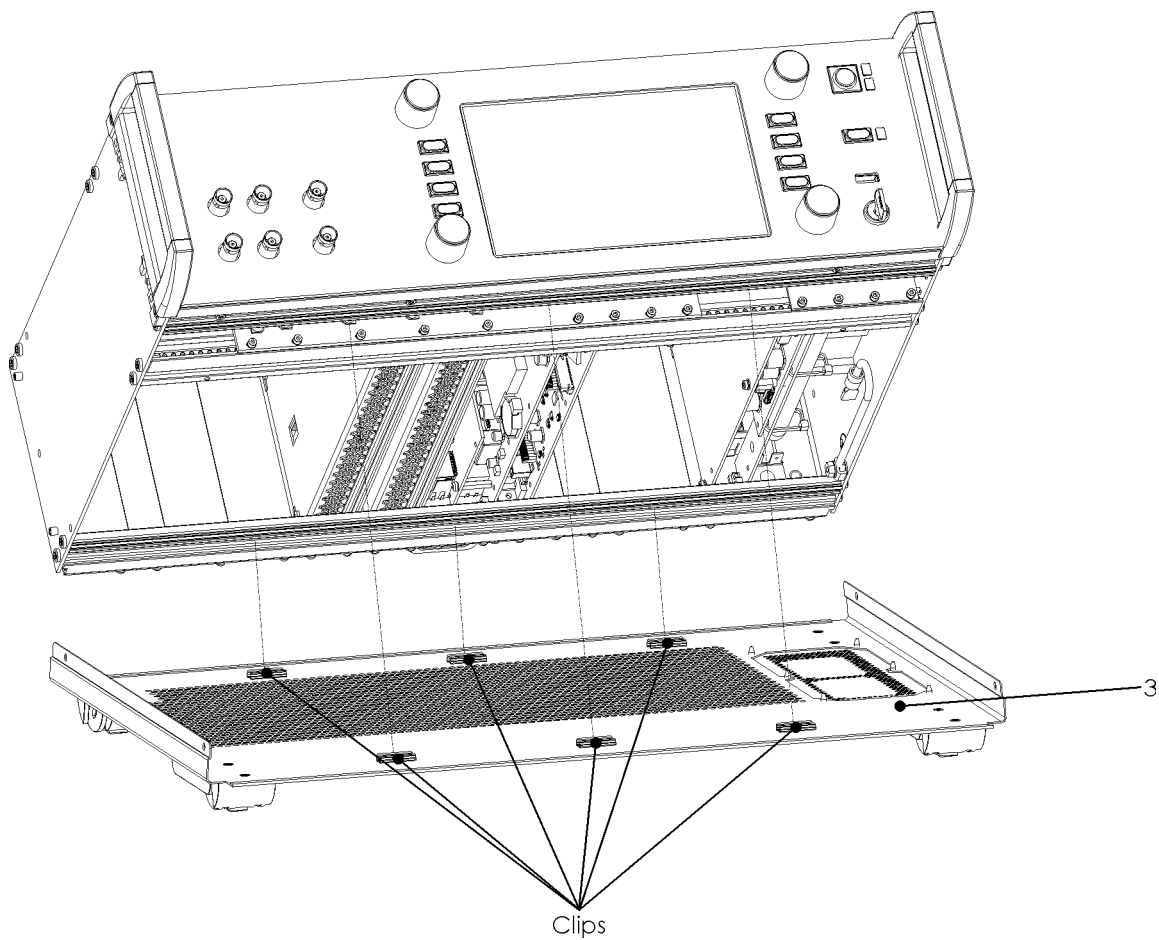

Figure 165 Lifting the DLC pro from the base plate
1. Remove 4 x screws (1) and lift DLC pro top cover (2) upwards. Please note that the top cover (2) is clipped into rails at 6 points (The clips are similar to the ones of the base plate illustrated in Figure 165). These connections must be unclipped when lifting the top cover (2) upwards.
2. Release the clips between DLC pro and base plate (3) at both sides and lift the DLC pro from the base plate (3) as shown in Figure 165. Please note that the base plate (3) is also clipped into rails at 6 points. These connections must also be unclipped when lifting the DLC pro from the base plate (3).